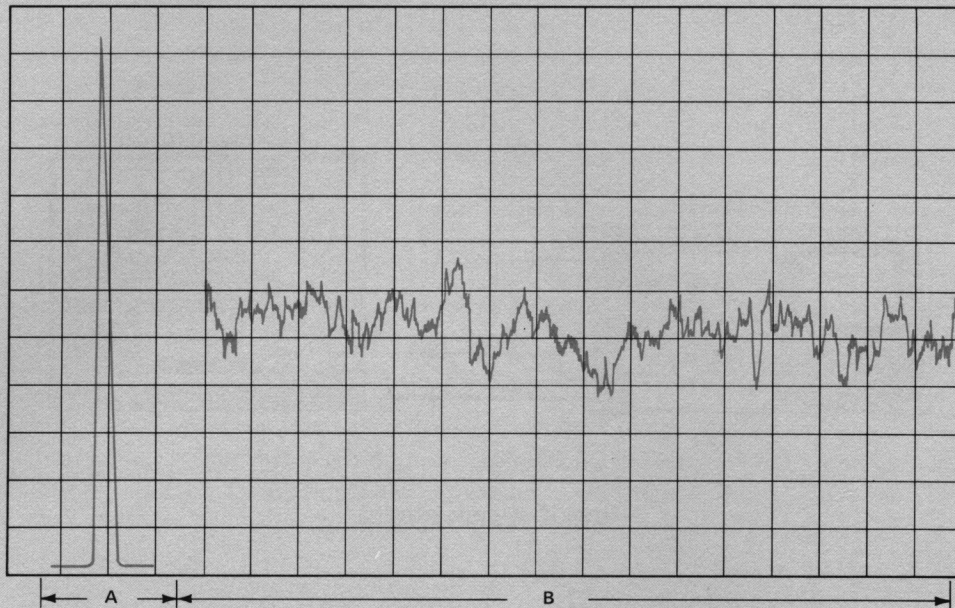

Figure 18. A 60 MHz CW Signal and its Frequency Drift During 30 Minutes.
3. Turn the recorder on and record the signal. Mark the three divisions which correspond to the three divisions we calibrated in step 2 above. From A of Figure 18, we see that each CRT division equals $\frac{4}{8}$ inch or $\frac{1}{2}$ inch. Thus 1 inch = 266 Hz.
Figure 18 part B shows the frequency drift of a 60 MHz signal for thirty minutes. This drift equals 1.1×266 Hz = 288 Hz.